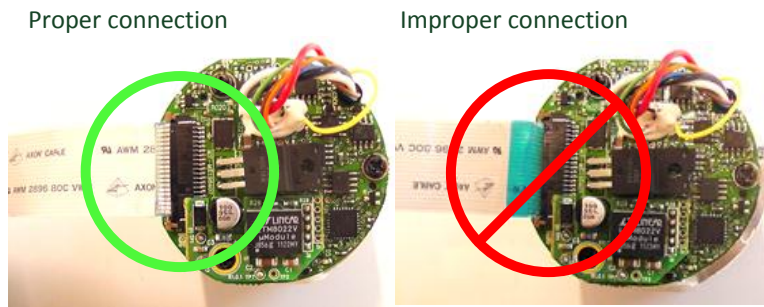

Figure 17 - Cable connection to actuator (top side view)
- 6) Connect the cable coming from the JACO's hand in the output connector of the actuator, contacts up (see Figure 17, p.20). Close the brown latch and add hot glue;
- 1) Connect the cable coming from finger motor #1 and connect it on actuator #6. The bright contacts of the cable must be facing up on the connector as show in Figure 17 (p.20);